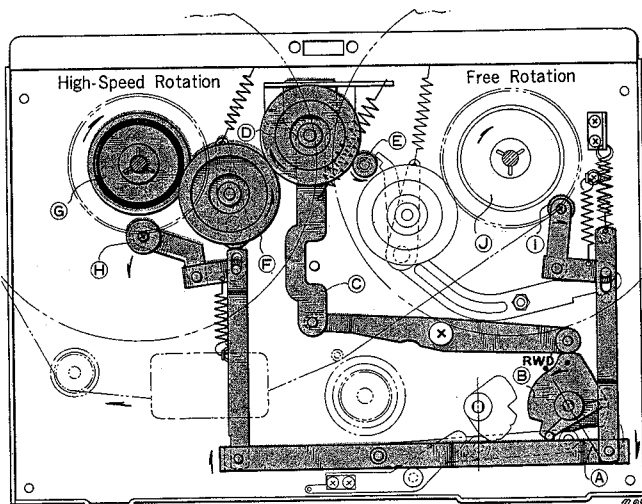

Fig. 4
Turning the *FAST FWD-REWIND knob (A)* to "REWIND" position, causes the *cam (B)* under the knob to push *Lever (C)* up. *Idler (D)* moves into the space between the upper part of the rotating *Motor drive bushing (E)* and the *Intermediate Pulley (F)* to transmit the high-speed rotation of the motor through the intermediate pulley to the *Supply Reel Spindle (G)*. At the same time, *Brake Rollers (H) and (I)* come off the reel spindle to free the *take-up reel spindle (J)*, thereby rewinding the tape onto the supply reel at a fast speed. (See figure 4)